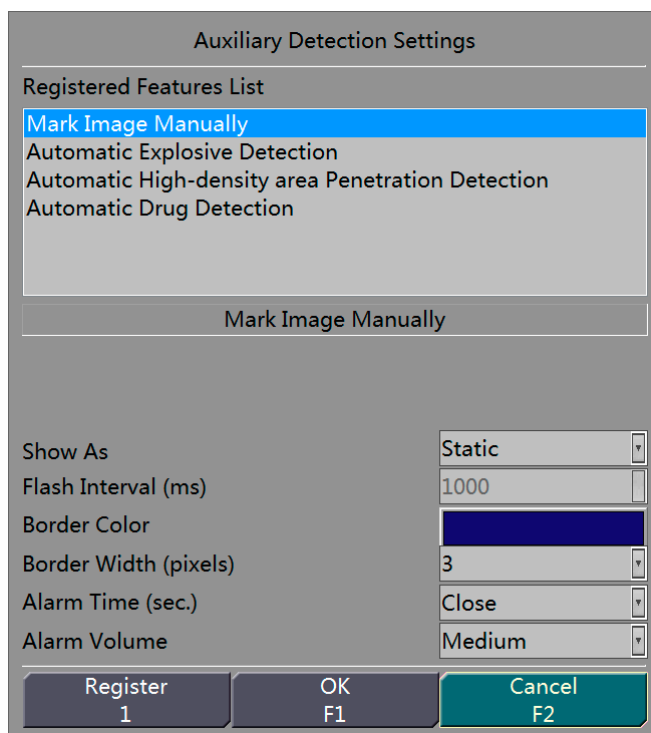

Figure 18-13 Auxiliary Detection Settings Interface
Step 1 Choose System Settings > Auxiliary Detection Settings or press the Increase key on the operation keyboard to display an interface, as shown in Figure 18-13.